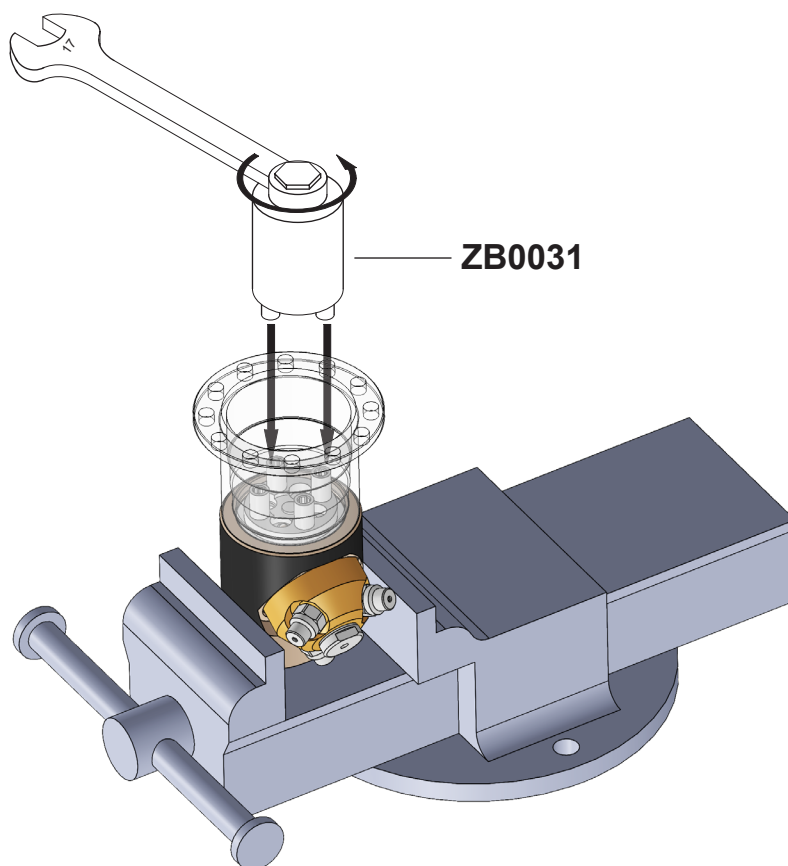

Fig. 9.13
9.4.4) Insert the special key (code BZ0031) on the central shaft pos.9 and use a 17 mm fixed-jaw to unscrew the above part (Fig.9.13).